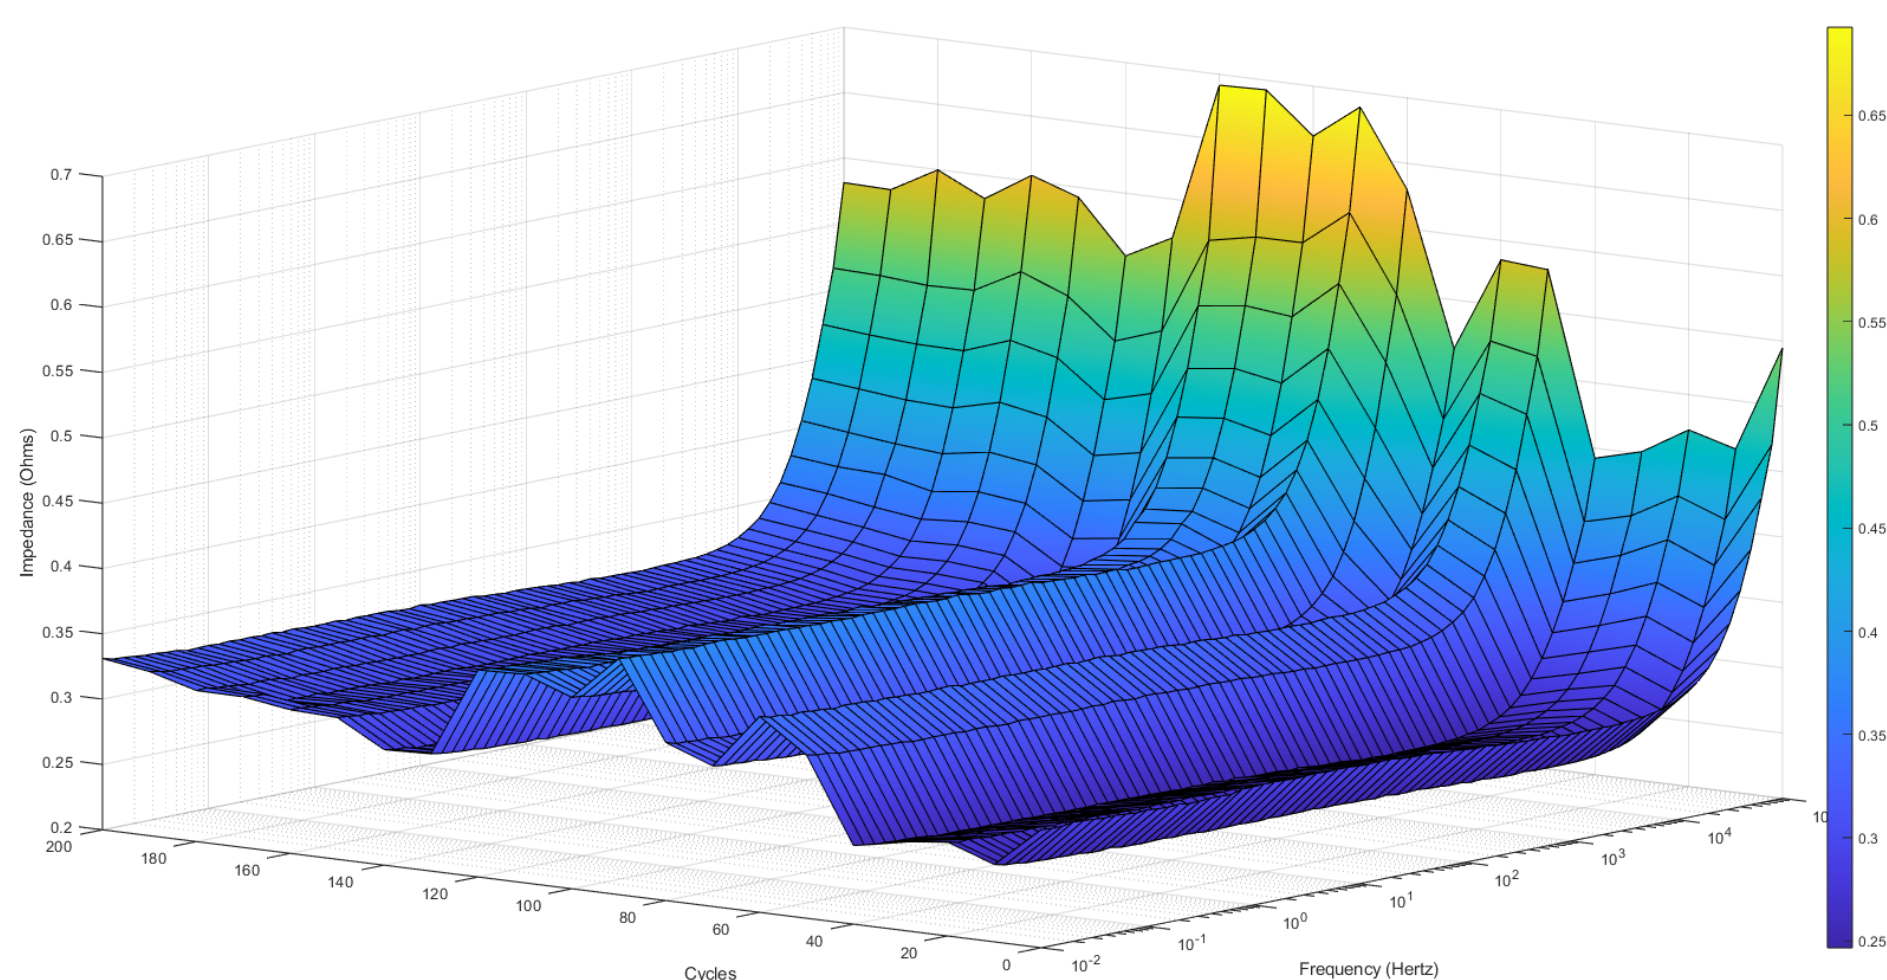

Figure 3: Bode plot comparing impedances across the different cycles. Up to 200 cycles
- ⇒ Figure 3 shows that there is a gradual trend of impedance increasing with a greater number of cycles. The impedance increases rapidly at higher frequencies. This means the cell exhibits frequency dependant impedance which is the same as capacitors and inductors.